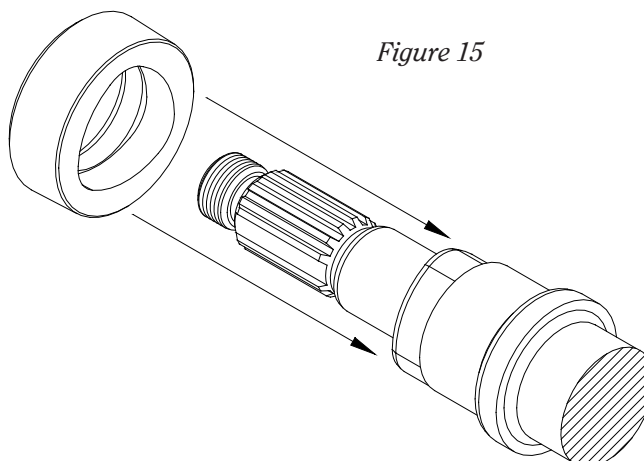

Figure 15
- Install the rotating seal onto the pump shaft (*Figure 15*). *Note:* the back of the rotating seal has a triangular recess that fits on to the triangular area of the shaft.